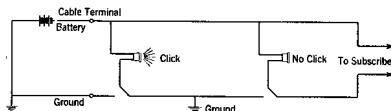

FIGURE 5. Ground Side Grounded
- Touch the exposed end of the wire that leads away from the central office with the other clip. See Figure 5.